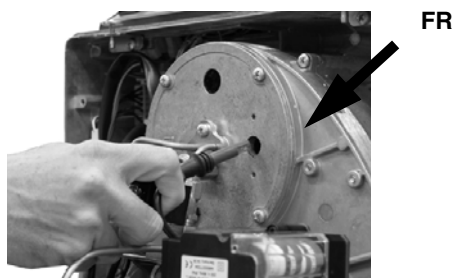

Fig. 42
- Withdraw the photoelectric cell **FR** from its housing (Fig. 42).